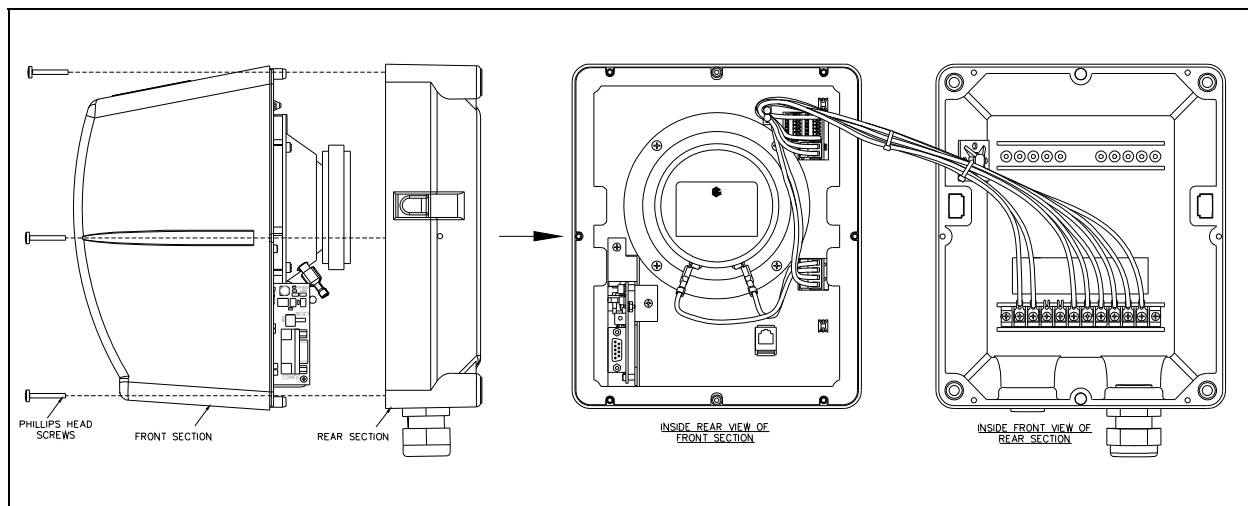

Figure 2: Addressable Amplified Speaker (Model 13382 shown)
3. Lift the front section straight up and flip to the left-hand side of the rear section (see Figure 2).